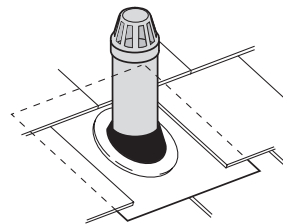

Fig. 19c Steps 4/5
**Step 4** – Dress the base plate to fit the lower tiles (Fig. 19c)